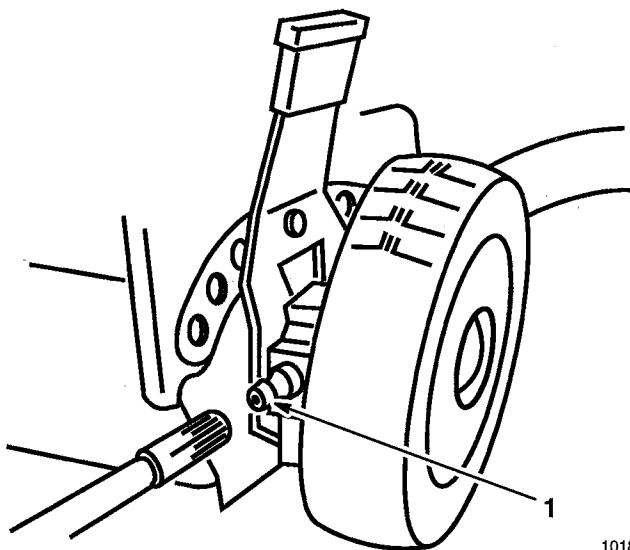

Figure 30
- Wipe grease fittings on rear height-of-cut adjusters (Fig. 30) with a clean rag.